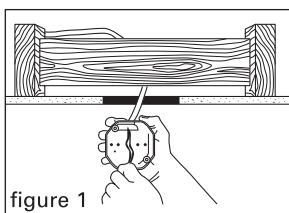

figure 1
1. With electrical power off, pull wires down and clamp them into box (figure 1).